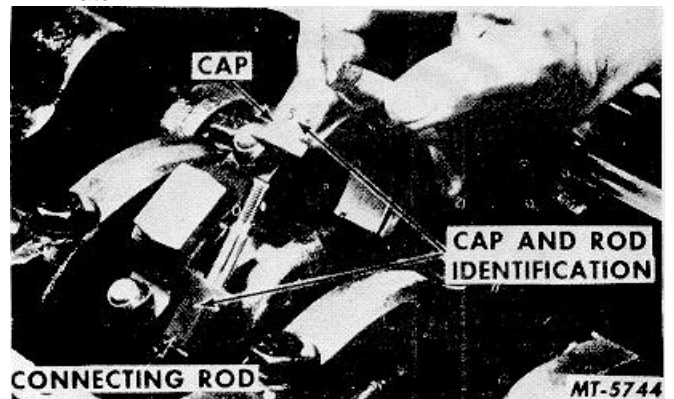

Fig. 79 Removing Connecting Rod Cap
70. Remove each connecting rod bearing cap and push connecting rod and piston assembly from the cylinder bore (Figures 79 and 80). Replace cap and bearing inserts on rod so that identification numbers match.